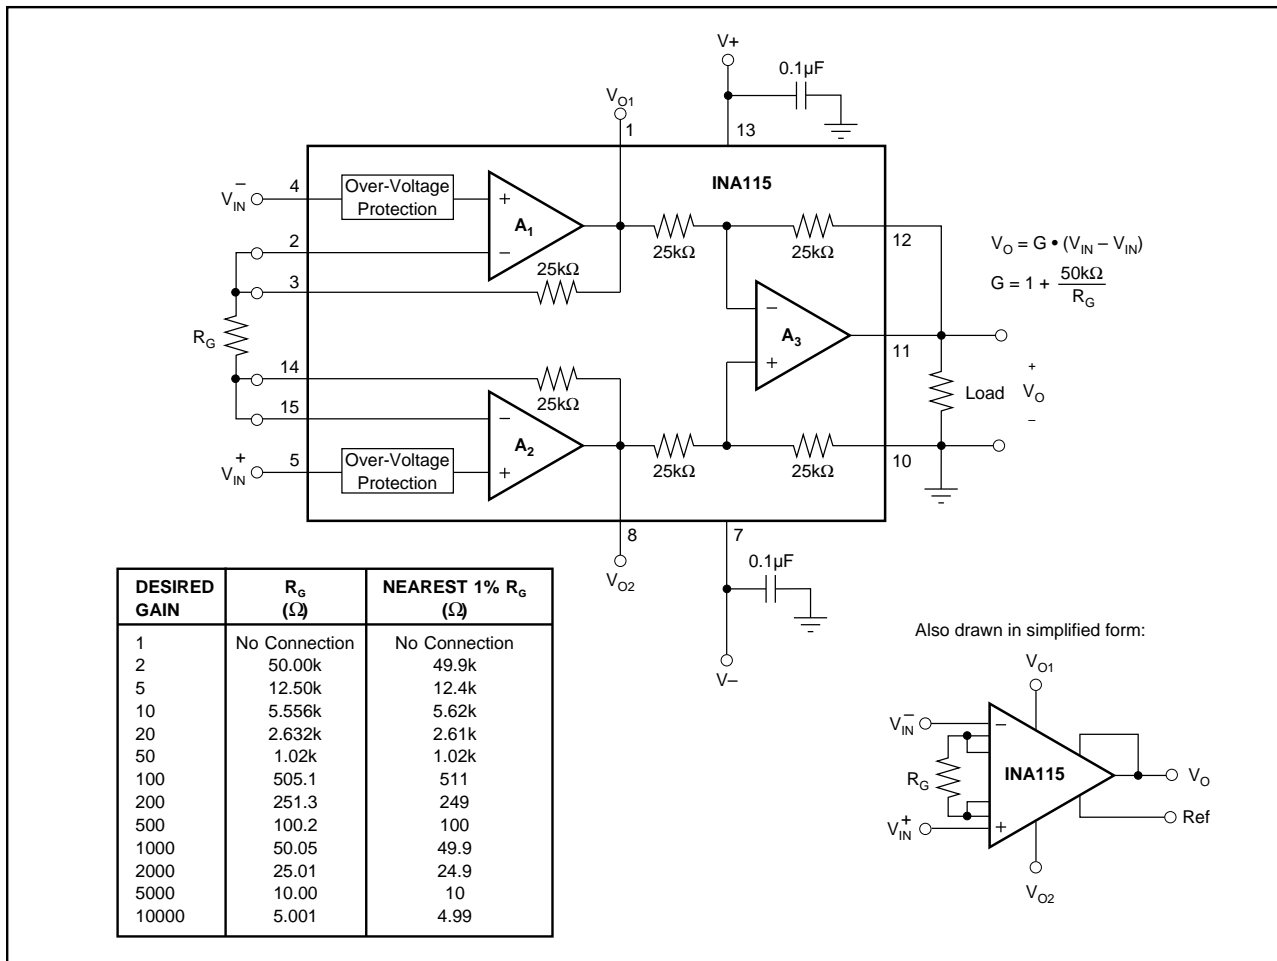

FIGURE 1. Basic Connections.
Figure 1 shows the basic connections required for operation of the INA115. Applications with noisy or high impedance power supplies may require decoupling capacitors close to the device pins as shown.
Commonly used gains and resistor values are shown in Figure 1.
The stability and temperature drift of the external gain setting resistor, R_G, also affects gain. R_G's contribution to gain error and drift can be directly inferred from the gain equation (1). Low resistor values required for high gain can make wiring resistance important. The “force and sense” type connections illustrated in Figure 1 help reduce the effect of interconnection resistance.